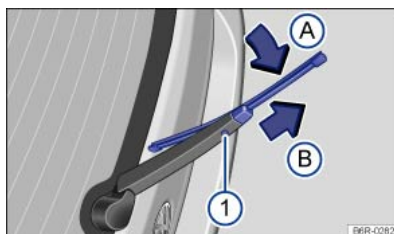

Fig. 203 Changing the rear window wiper blade.
- Press and hold the release button ⇒ *Fig. 203*  .
- Tilt the wiper blade in the direction of the wiper arm ⇒ *Fig. 203* (arrow ) and pull it off in the direction of the arrow  at the same time. You may need to use some force to do this.
- Insert a new wiper blade with the **same length and design** onto the wiper arm in the opposite direction of the arrow. Push it on until it engages ⇒ *Fig. 203*  . The wiper blade must be in the folded back position ⇒ *Fig. 203* (arrow ) .